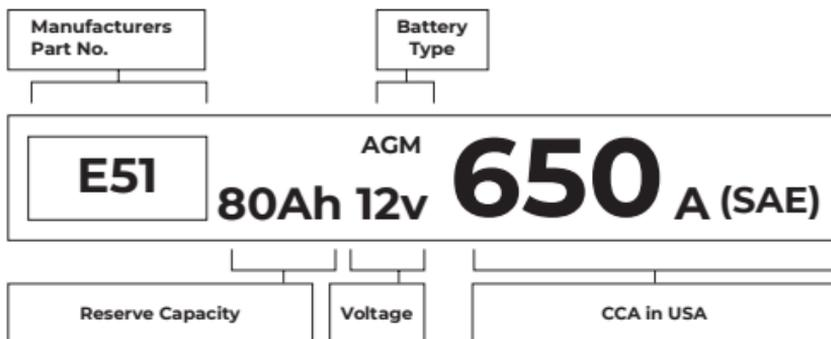

Figure 4.1.3
**Let's use Figure 4.1.3 as an example:**